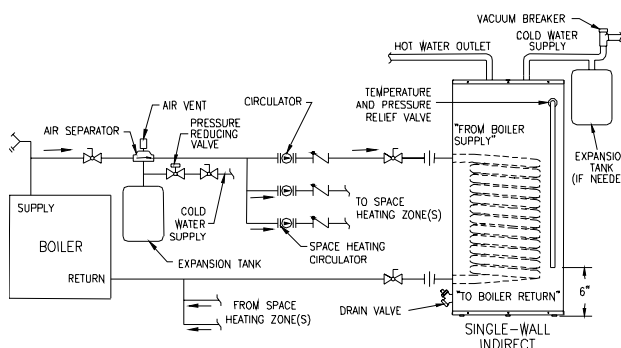

Figure 2 - Water Boiler Piping with Circulators
- For a space heating system that utilizes CIRCULATORS, refer to Figure 2. The Single-wall Indirect connection labeled “FROM BOILER SUPPLY” should be piped to the boiler supply piping. Mount the circulator making sure the flow arrow points toward the water heater. The use of shut-off valves and unions are recommended for future service convenience. The use of an air separator and vent is recommended to eliminate air in the system. Pipe and fittings between the boiler and Single-wall Indirect must be 3/4" diameter or larger.